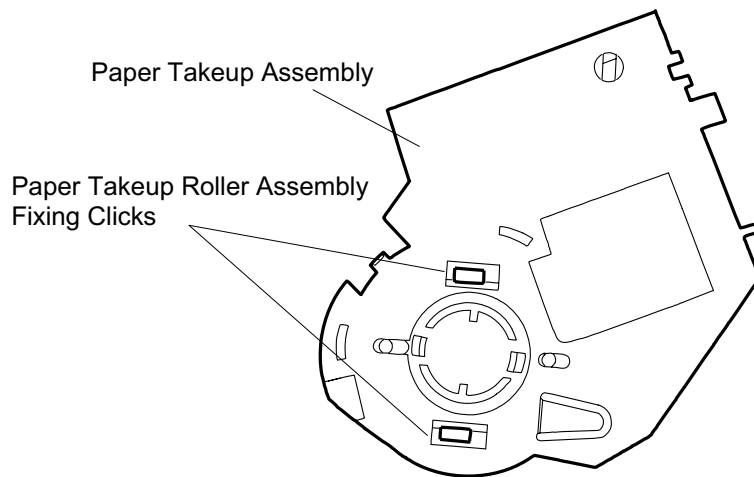

Figure 3-27. Locking Tabs on the LD Roller
8. Release 2 locking tabs securing the LD roller assembly to the paper loading assembly using the tweezers. Then remove the LD roller assembly. (See Figure 3-27).